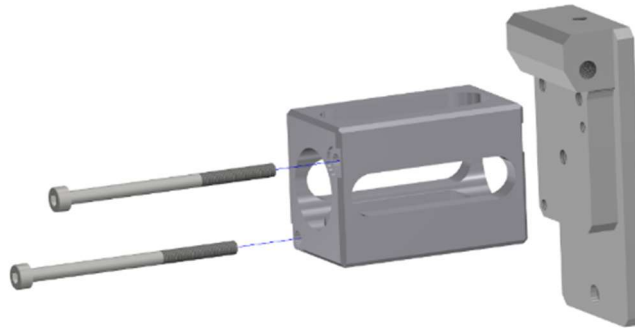

Figure 8-33. Install the DAS Structural Replacement (474-8206)
- 8.3.6 Attach the DAS Structural Replacement (474-8206) to the Pelvis DAS Mounting Plate (474-4005) with two M3 X 0.5 X 50 LG. SHCS (Figure 8-33).